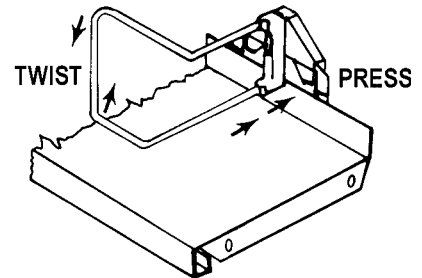

FIGURE 39C
3. To remove the sliding support from the rail, apply thumb pressure to right of slider block. Grip wire form with free hand and twist as shown in figure 39C.